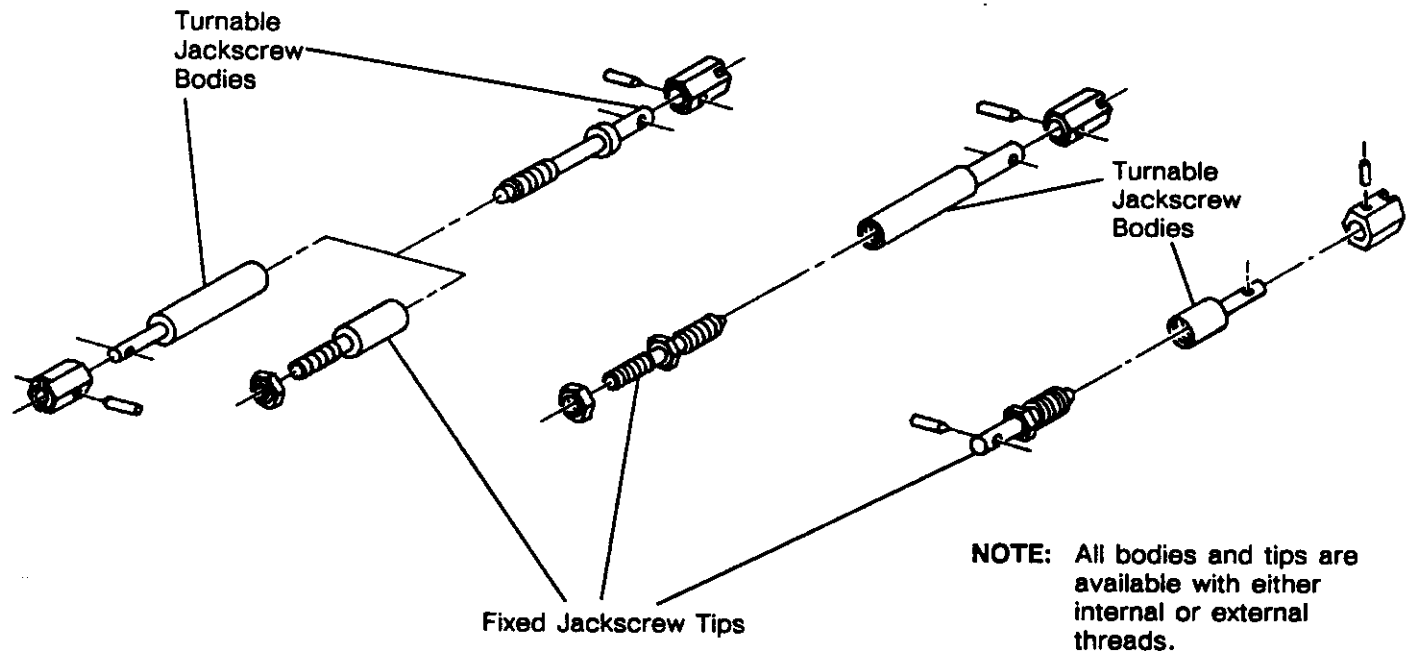

Fig. 8. Hardware
3.5. Hardware (See Figure 8)
A variety of AMP Fixed and Turnable Jackscrew Assemblies have been designed to accommodate the various styles of headers and receptacles. These assemblies provide a means of locking mated free-hanging and panel mount headers and receptacles. Some typical components are shown in Figure 8. Refer to the instruction sheets packaged with the jackscrews for assembly procedure.